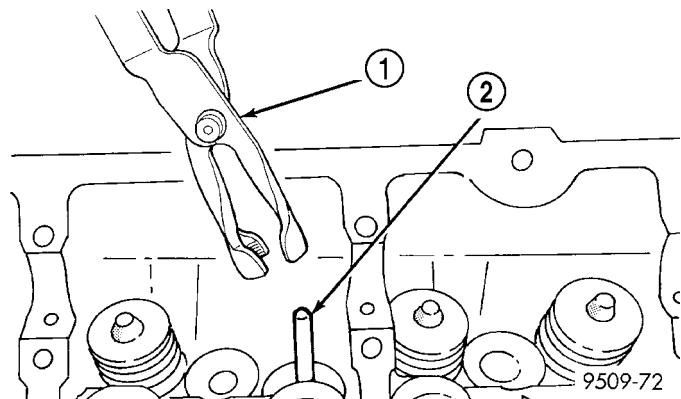

Fig. 47 Valve Stem Seal - Removal
(1) Remove valve spring. (Refer to 9 - ENGINE/CYLINDER HEAD/VALVE SPRINGS - REMOVAL)
(2) Remove valve stem seals by using a valve stem seal tool (Fig. 47).